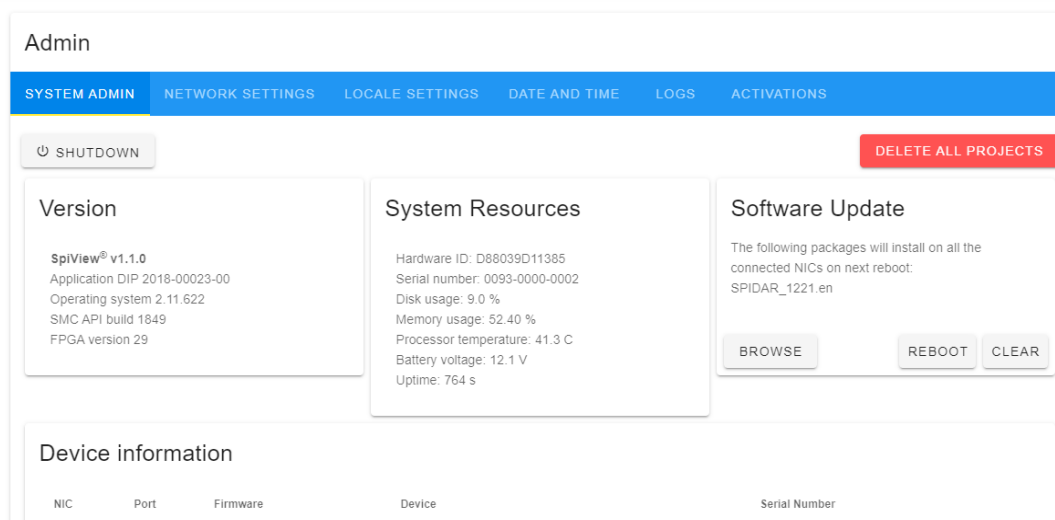

Figure 4-37: Message displayed in the Software Update window, after browsing for a file
- Browse – pressing this button in the Software Update window will open a window allowing you to browse your local hard drive for the upgrade package, to upgrade the SPIDAR software. After selecting the appropriate file, the screen in Figure 4-37 will be displayed. The file has already been uploaded to the NIC-500 and will be installed after rebooting the NIC-500.